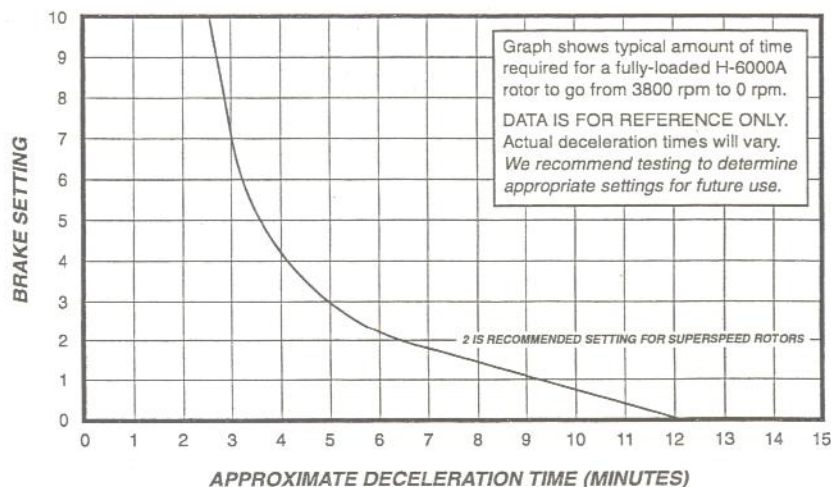

Figure 3-2. Brake Setting vs. Deceleration Time
BRAKE Dial	Sets desired amount of braking for end of run, which will vary depending on the rotor in use (figure 3-2 can be used as a guide).
4. Set the BRAKE dial to the desired braking rate. Figure 3-2 shows a typical braking curve when a fully-loaded H-6000A Rotor decelerates from 3800 rpm. Since many variables can affect braking rate (for example, type of rotor in use and load size) you should experiment with braking rates and collect data for future use.